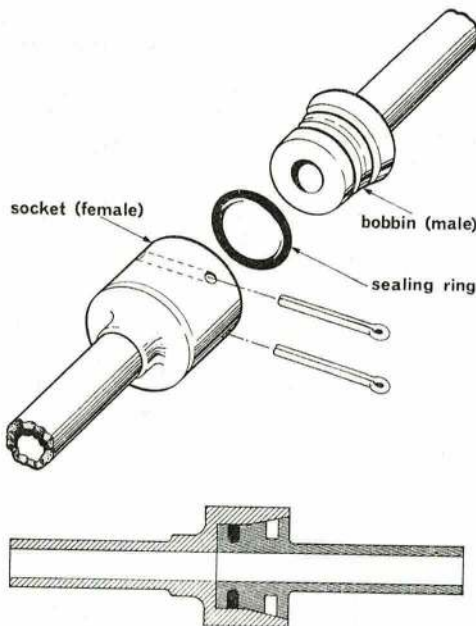

Fig. 6. PIPE CONNECTION
41. If oil or fuel is found leaking from a pipe connection (Fig. 6), the joint must be dis-